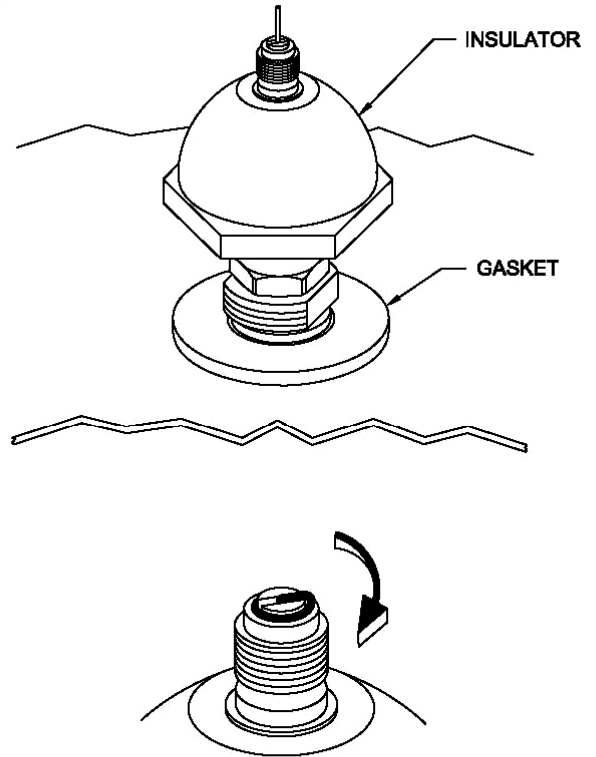

FIG. 5
- 15.) Slide the whip into the adapter and secure by tightening the set screws with the allen wrench provided. See figure 5.